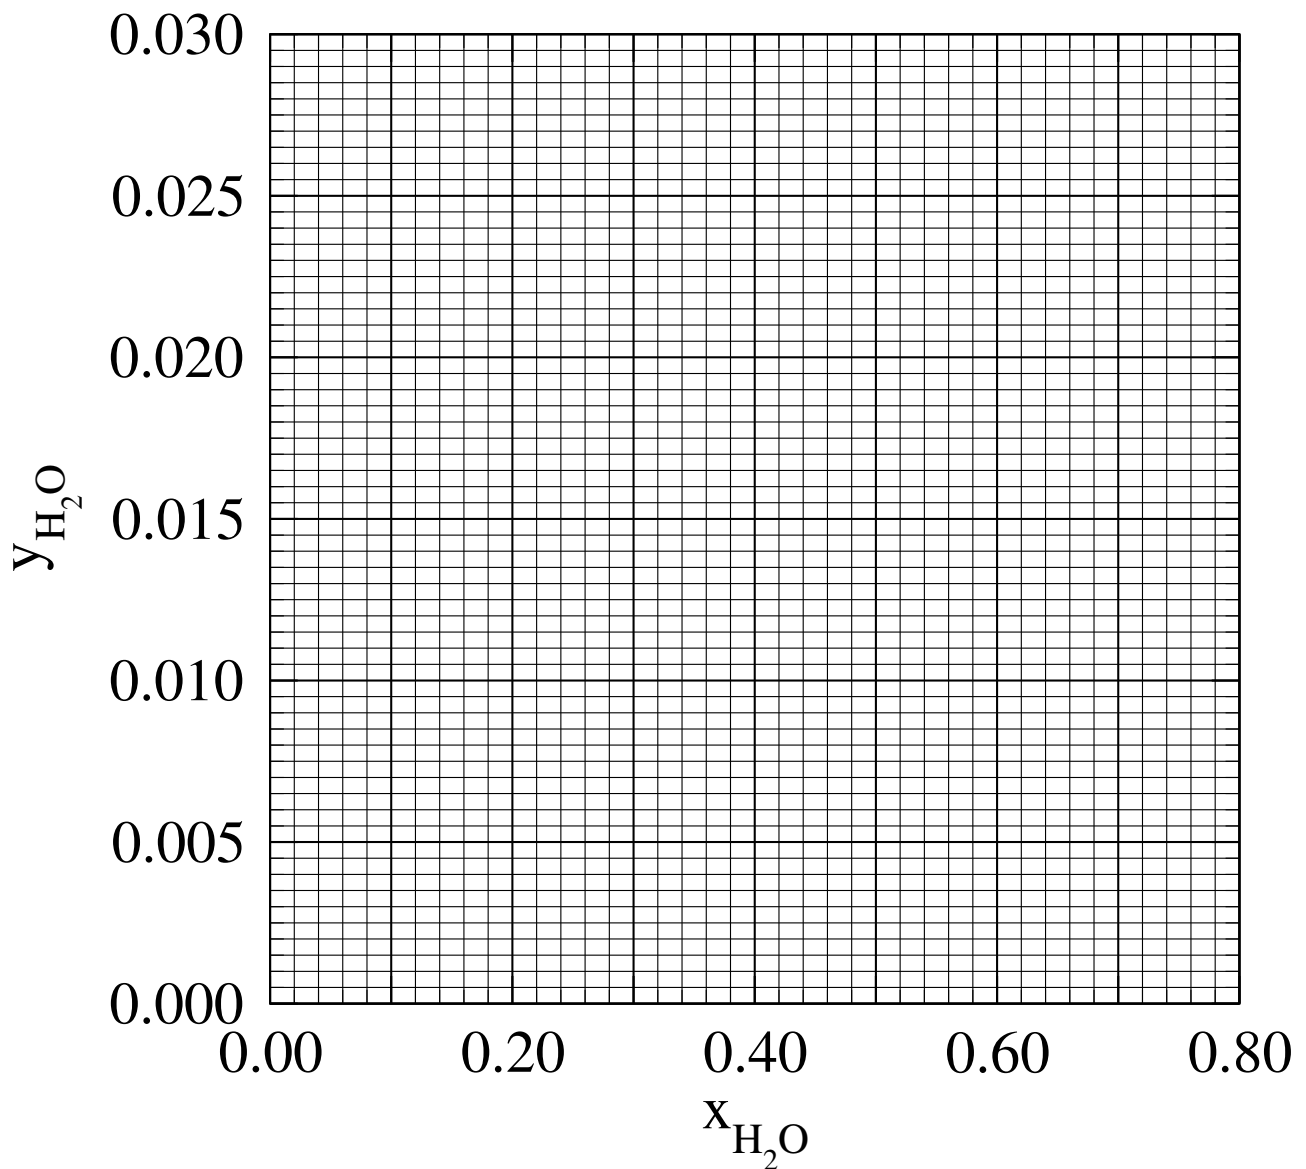

Figure 11: Blank graph for the air dryer in Q. 12.
- Using the equilibrium data provided in Table 1, determine the number of equilibrium stages required to perform the absorption. Plot your graph in  $x$ - $y$  coordinates on Fig. 11 and ensure that you adequately capture the curvature of the operating line (or use  $X$ - $Y$  coordinates). [12 marks]